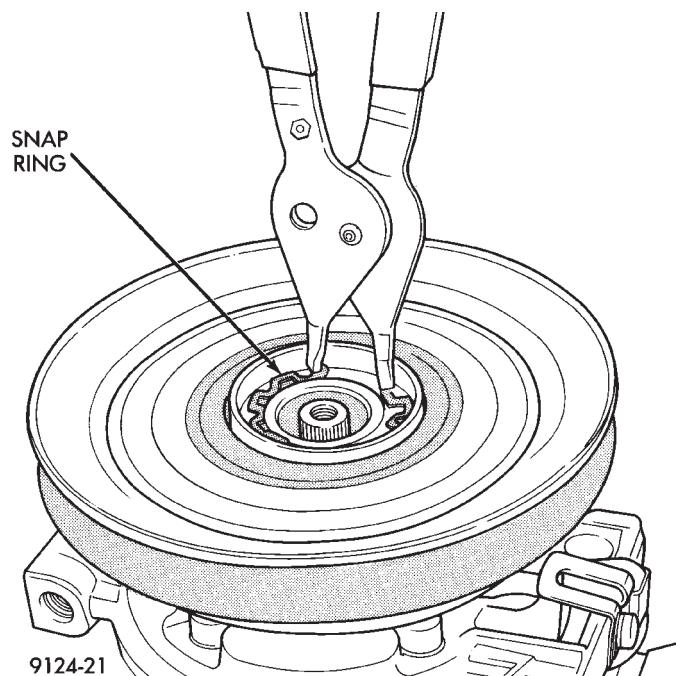
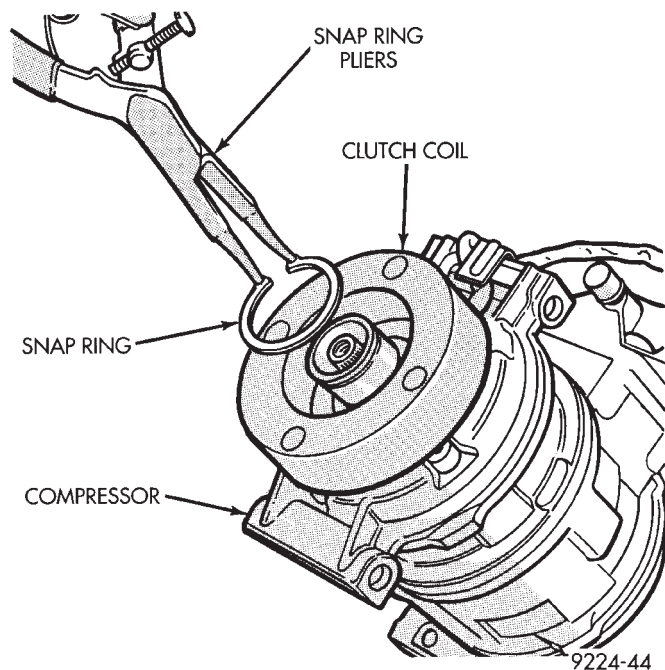

Fig. 32 Removing Pulley Snap Ring
Fig. 33 Clutch Coil Snap Ring
- (3) Remove pulley retaining snap ring with Snap Ring Pliers (C-4574), and slide pulley assembly off of compressor (Fig. 32).
- (4) Remove coil wire bracket/ground clip screw and wire harness.
- (5) Remove snap ring retaining field coil onto compressor housing (Fig. 33). Slide field coil off of compressor housing.